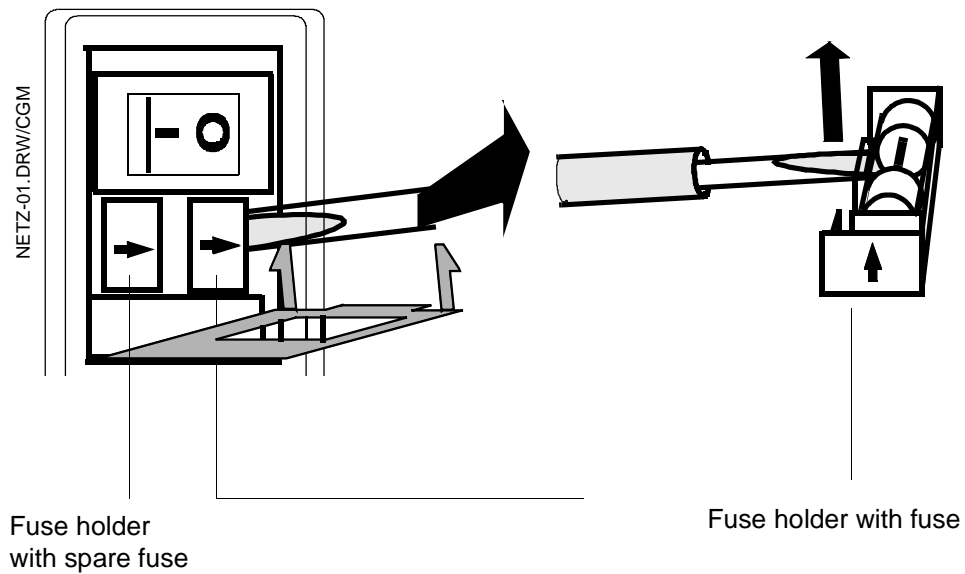

Fig. 8-3 Removing the fuse holder complete with fuse
2. Remove the fuseholder (see Fig. 8-3 on page 8-3).